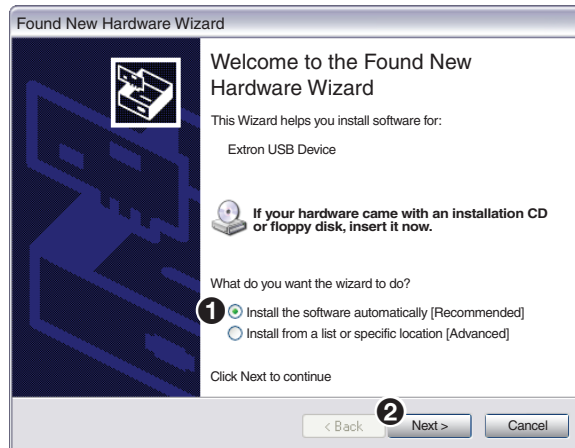

Figure 20. Installing the Software Automatically
4. Select **Install the software automatically (Recommended)** (see figure 20, 1).